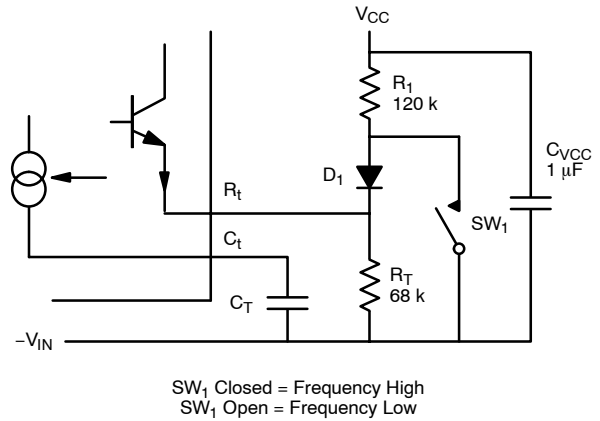

FIGURE 7. Frequency Shifting Using R_t Current Change
- The frequency can be changed easily by supplying some of the current into R_T from the V_{CC} rail, thus “starving” the internal current source, and slowing the frequency down. (See Figure 7.)
The Si9117 has a sync-to-output delay of less than 70 ns, so the minimum duty cycle for operation at 500 kHz would be 70 ns/1 μ s = 7%. This minimum should be considered when the short circuit current is determined. Designers should note that a shunt placed across the output of the converter is probably not a realistic load in the event of a failure, and the real circuit impedance will probably be substantially lower. In such circumstances, it may be necessary to shift the frequency of the converter to a lower value during overload. Frequency shifting can be accomplished by altering the steady state values of the oscillator programming components (see oscillator section, Figure 7).